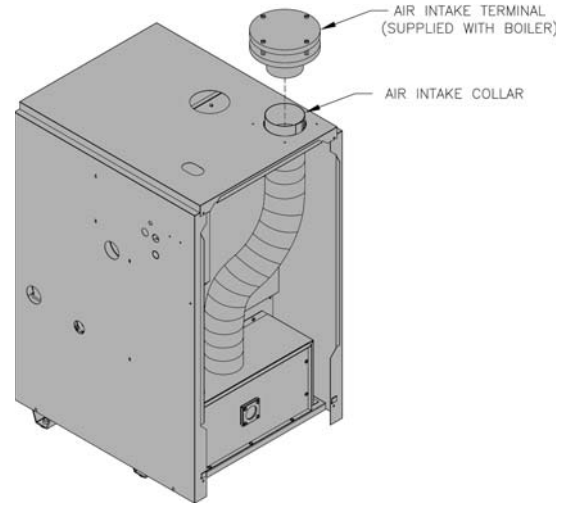

Figure 16: Indoor Air - Air Intake Terminal Installation
14. Install supplied air intake terminal onto collar of the jacket enclosure. See Figure 16.